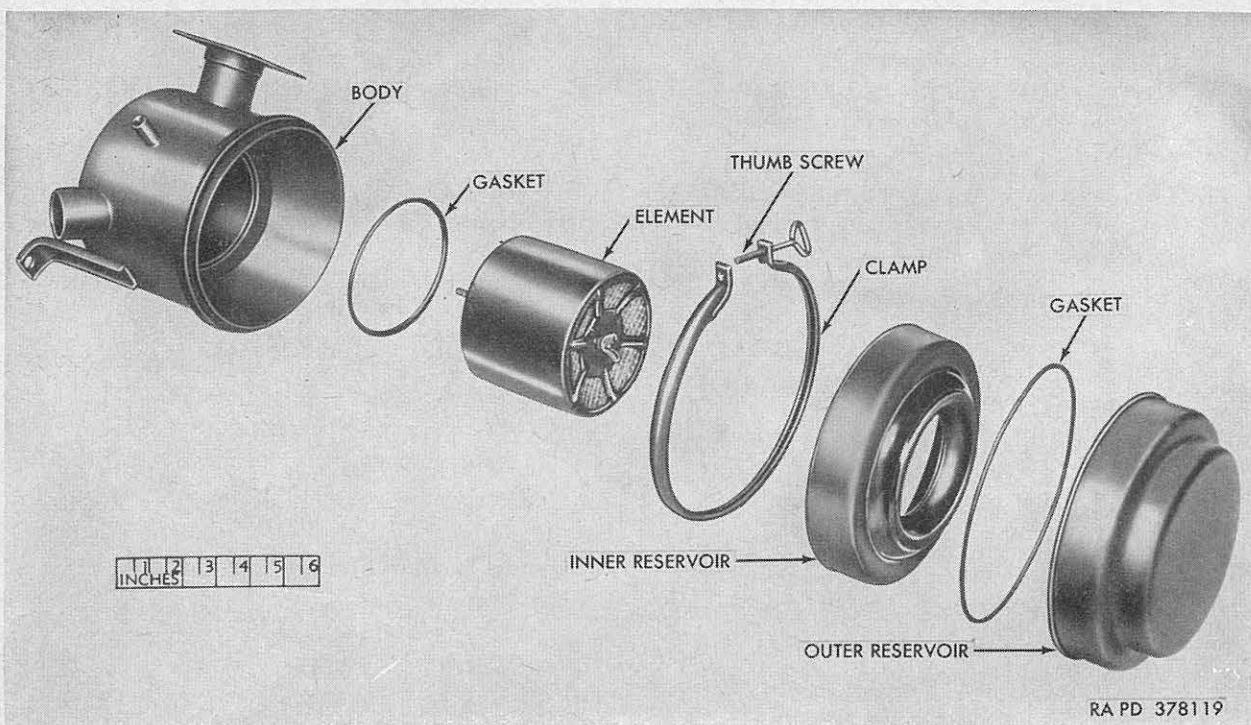

Figure 48. Air cleaner—exploded view.
- (1) Unscrew clamp screw (fig. 6), remove clamp and reservoir from body of air cleaner, and separate clamp and inner reservoir (fig. 48) from outer reservoir.
- (3) There are two gaskets (fig. 48) in air cleaner body, one between top of filter element and body, and the other between reservoir and body. Do not remove these gaskets unless damaged.
- (4) Wash filter element thoroughly in dry-cleaning solvent and allow to drain. After draining dip element in seasonal grade engine oil and again allow to drain before installation. Wash the two reservoirs thoroughly in dry-cleaning solvent.
- (5) If gaskets were removed from air cleaner body, install new ones.